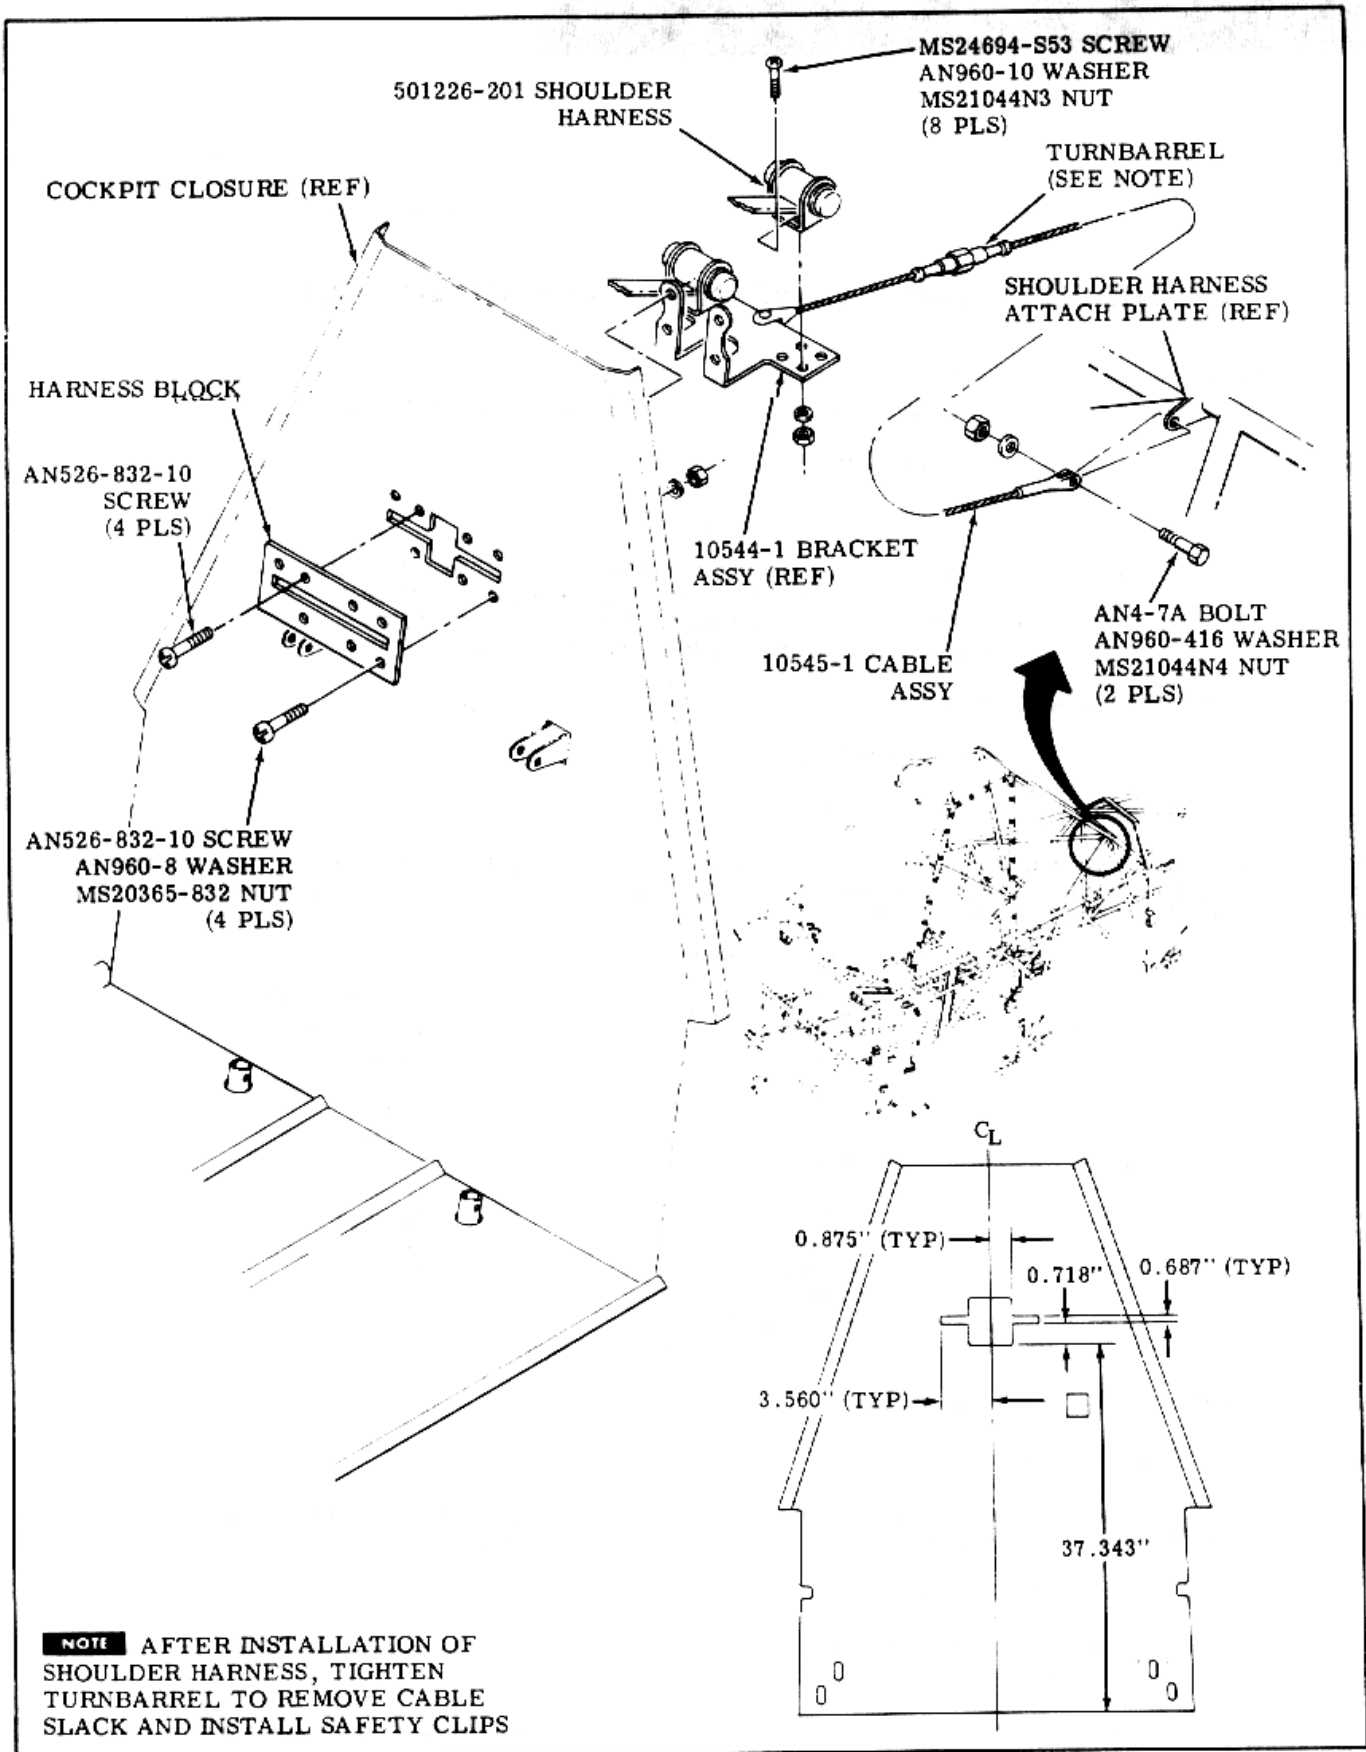

Figure 1.
- 2 Locate and make cutout in aft cockpit closure bulkhead in area shown in Figure 1.
- 3 Using harness block for template (furnished with 501226-201 shoulder harness), locate and drill installation holes for harness block (see figure 1.).
- 4 Install 501226-201 shoulder harness, 10544-1 bracket assembly and 10545-1 cable assembly (see figure 1.).